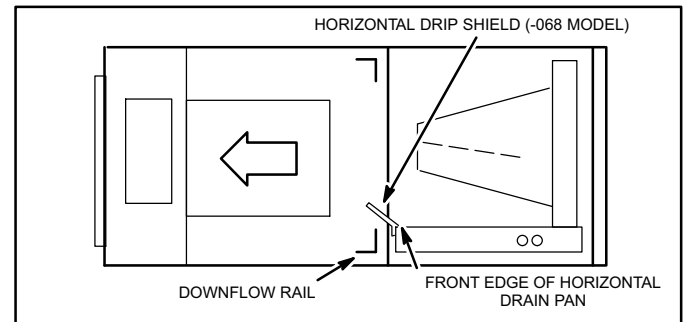

Figure 5. Left-Hand Discharge Configuration
11. **(-068 Model Only)** Install the horizontal shield on the front edge of the horizontal drain pan as shown in figure 5.